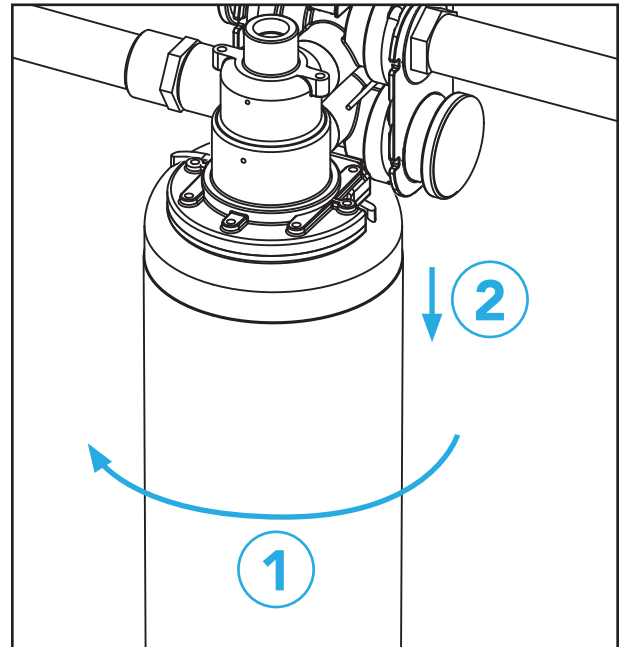

FIGURE 4. REMOVING CARTRIDGE
1. Holding the cartridge with both hands, swiftly rotate the cartridge quarter turn to the left until disengaged. The inlet water will automatically shut off (Figure 4).